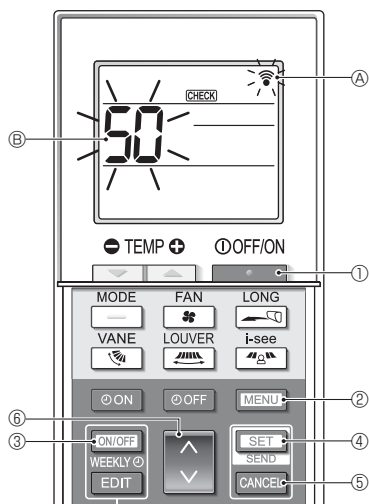

Fig. 6-3
1. Press the **POWER** button ① to stop the air conditioner.
- \* If the weekly timer is enabled (**WEEKLY** is on), press the **ON/OFF WEEKLY** button ③ to disable it (**WEEKLY** is off).
2. Press the **MENU** button ② for 5 seconds.
- **CHECK** ① comes on and the unit enters the self-check mode.
3. Press the **MODE** button ⑥ to set the displayed number ⑥ to "50".
- While pointing the wireless remote controller toward the receiver, press the **SET** button ④. (The unit number blinks.)
4. Press the **MODE** button ⑥ to set the unit number of the indoor unit. (Fig. 6-3)
- While pointing the wireless remote controller toward the receiver, press the **SET** button ④. (The mode number blinks.)
5. Press the **MODE** button ⑥ to set the mode number. (Fig. 6-3)
- While pointing the wireless remote controller toward the receiver, press the **SET** button ④. (The setting number blinks.)
6. Press the **MODE** button ⑥ to select the setting number. (Fig. 6-3)